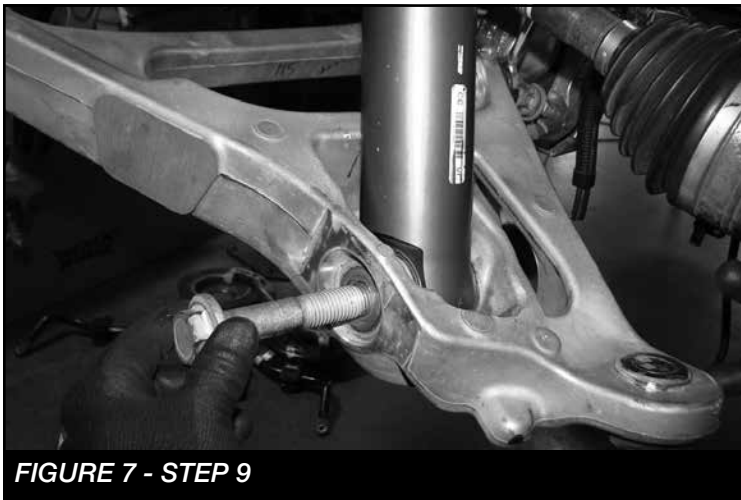

FIGURE 7 - STEP 9
9. Locate the lower shock mount bar pin nuts and remove. Loosen and remove the control arm at the crossmembers and save for re-installation. **SEE FIGURES 7**